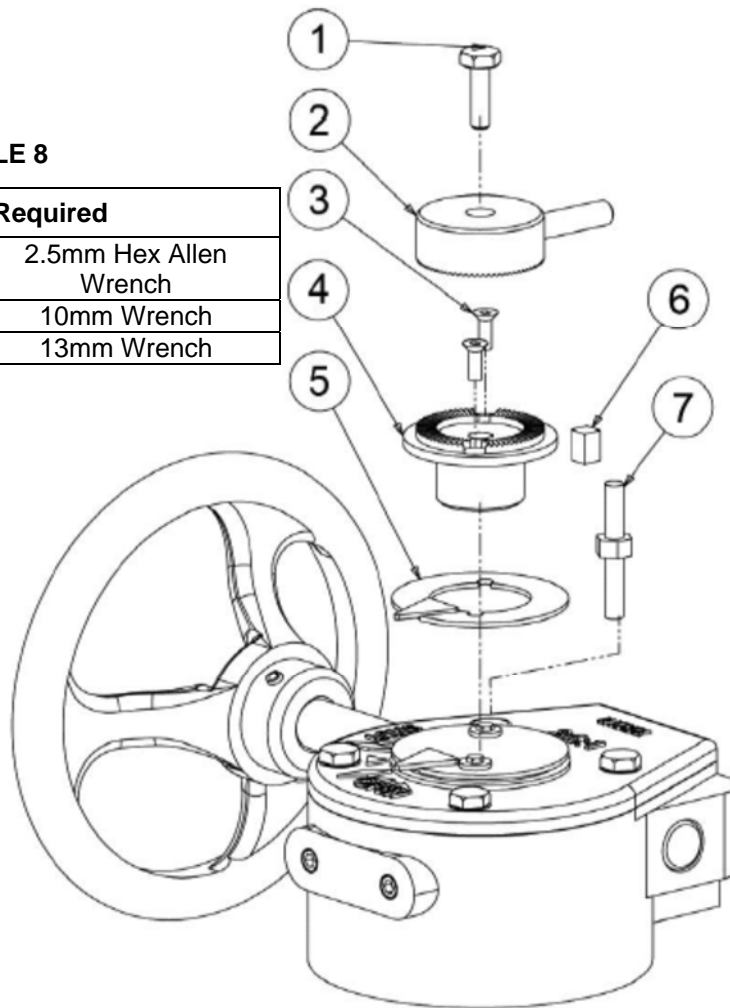

FIGURE 10
1. Remove the two screws holding the top cover (Indicator Pointer) onto segment gear. Discard cover and screws. See Figure 10.
2. Place indicator (5), supplied with kit, around bottom hub (4). Align key (6) on bottom hub with slot in segment gear and slide into place.
3. Attach with two supplied M4 x 12 flat head screws (3).
4. Remove one cap screw (1) holding cover onto gear operator housing and replace with stop pin (7).
5. Use cap screw (1) you just removed to secure the top hub (2) to the bottom hub (4). Top hub can be moved 360 degrees in 5 degree increments.
6. Tighten cap screw (1) once top hub is appropriately set.
- NOTE:** The gear operator provides a large mechanical advantage. Be careful to stop turning the handwheel when the pointer of top hub (2) contacts stop pin (7) to prevent damage.